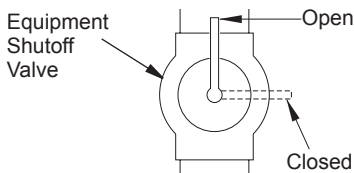

Figure 18 - Equipment Shutoff Valve
1. Close equipment shutoff valve (see Figure 18).
1. Open equipment shutoff valve (see Figure 18).
2. Close equipment shutoff valve (see Figure 18, page 17).